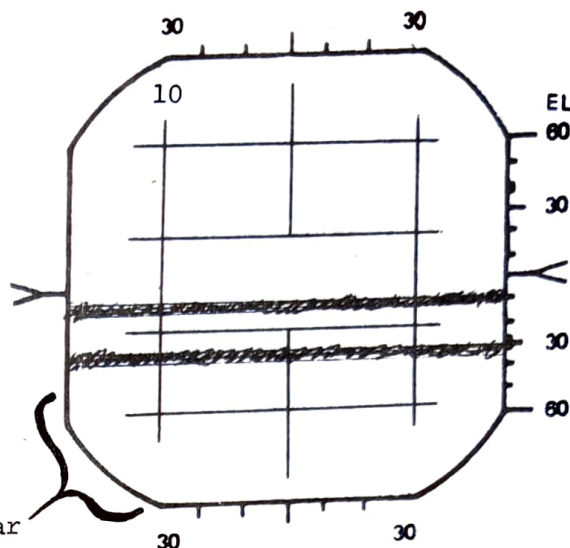

Figure 10 AN/APX-76A Loop Check Display
- (4) (WSO) DSCG Scope - RDR
- (5) (WSO) AN/APX-76A-Mode-Set (As Desired)
- (6) (WSO) AN/APX-76A-Code-Set (As Desired)
- (7) (AC) Mode 4-4a (If Required)
- (8) (AC) Mode 4 Tone/Light-Set (As Desired)
- (9) (AC) IFF/SIF Master Switch-Stby
- (10) (AC) IFF/SIF Mode-Enabled (Proper mode selected)
- (11) (AC) IFF/SIF Code-Set (As Desired)
- (12) (AC) IFF/SIF Master Switch - Low
- (13) (WSO) CHAL Code/Test Switch - TEST
b. The WSO should note an AN/APX-76A interrogate light (green CHAL light) plus two IFF markers extending completely across the scope at 4NM, (one line at 3.5NM and the other line at 4.5NM) as shown in Figure 10. The test period will last a maximum of 10 seconds. Note that you will receive two lines if testing correct Mode and Code. You will receive only the bottom (near) line if the correct Code is not set. In the Loop Check, a third target (line) may appear; usually below (nearer than) the Mode line. This is known as a "Phantom Pulse". This pulse may also occur for any returns within 1 mile of the aircraft.